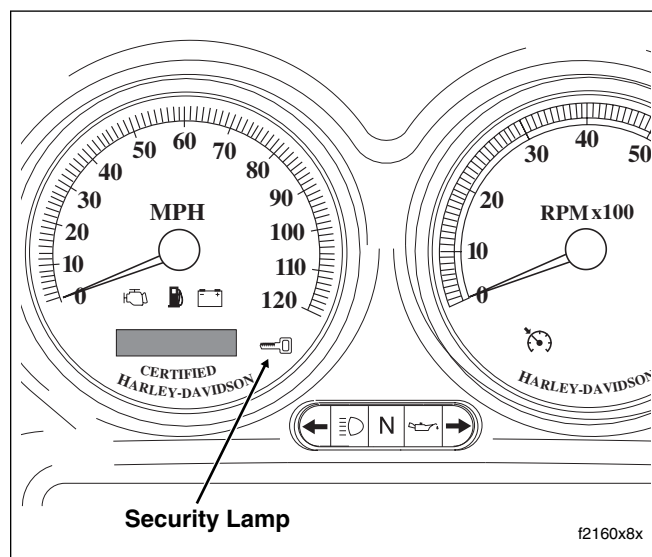

Figure 3-8. Speedometer (FLHX, FLHT/C/U)
- See Figure 3-8. When the ignition key is turned ON, the security lamp will illuminate for approximately four seconds and then turn off.